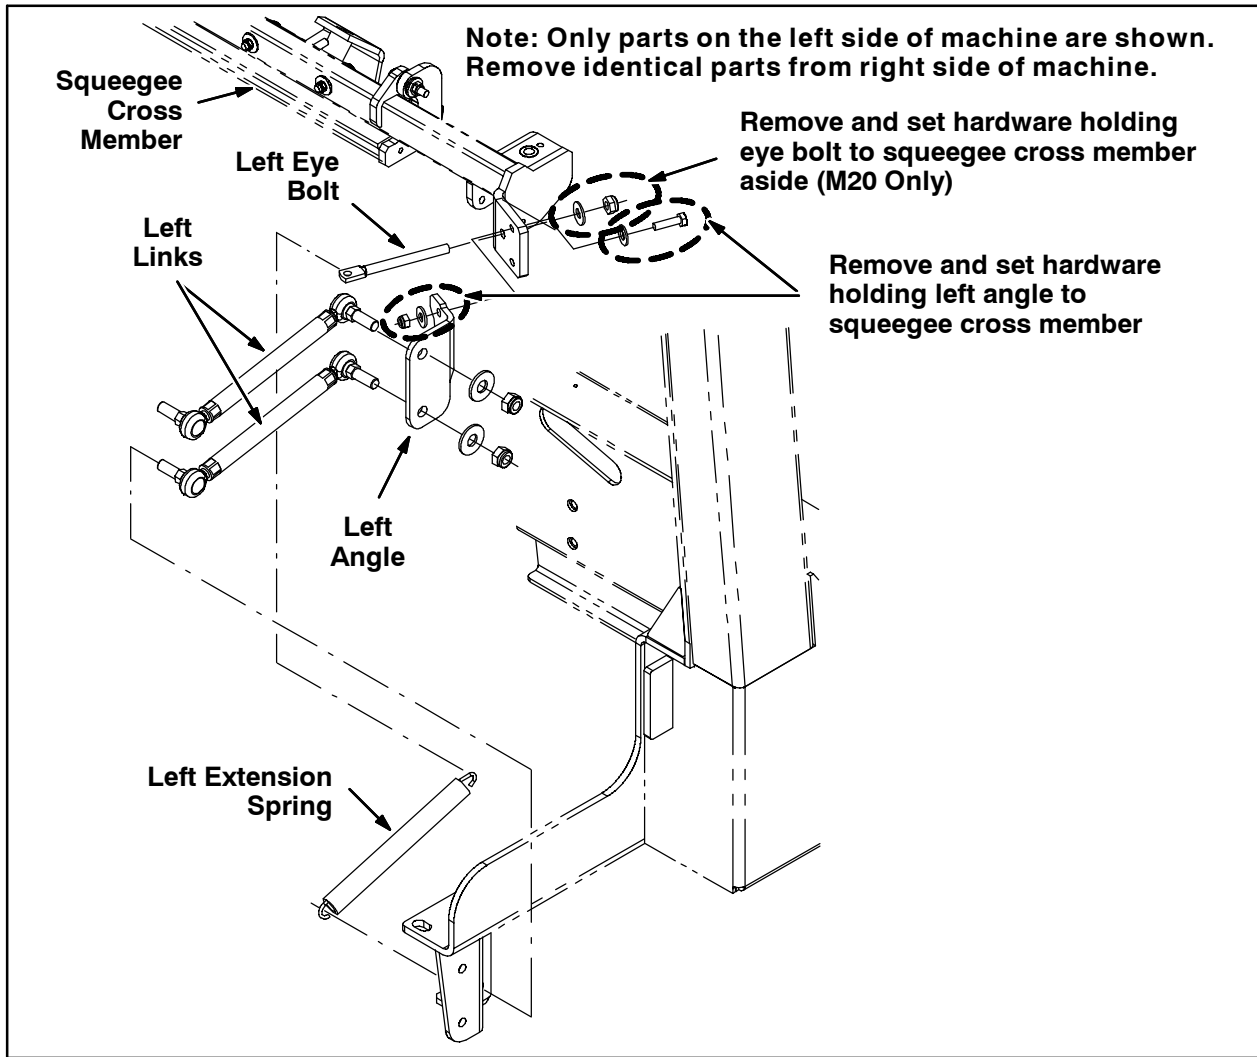
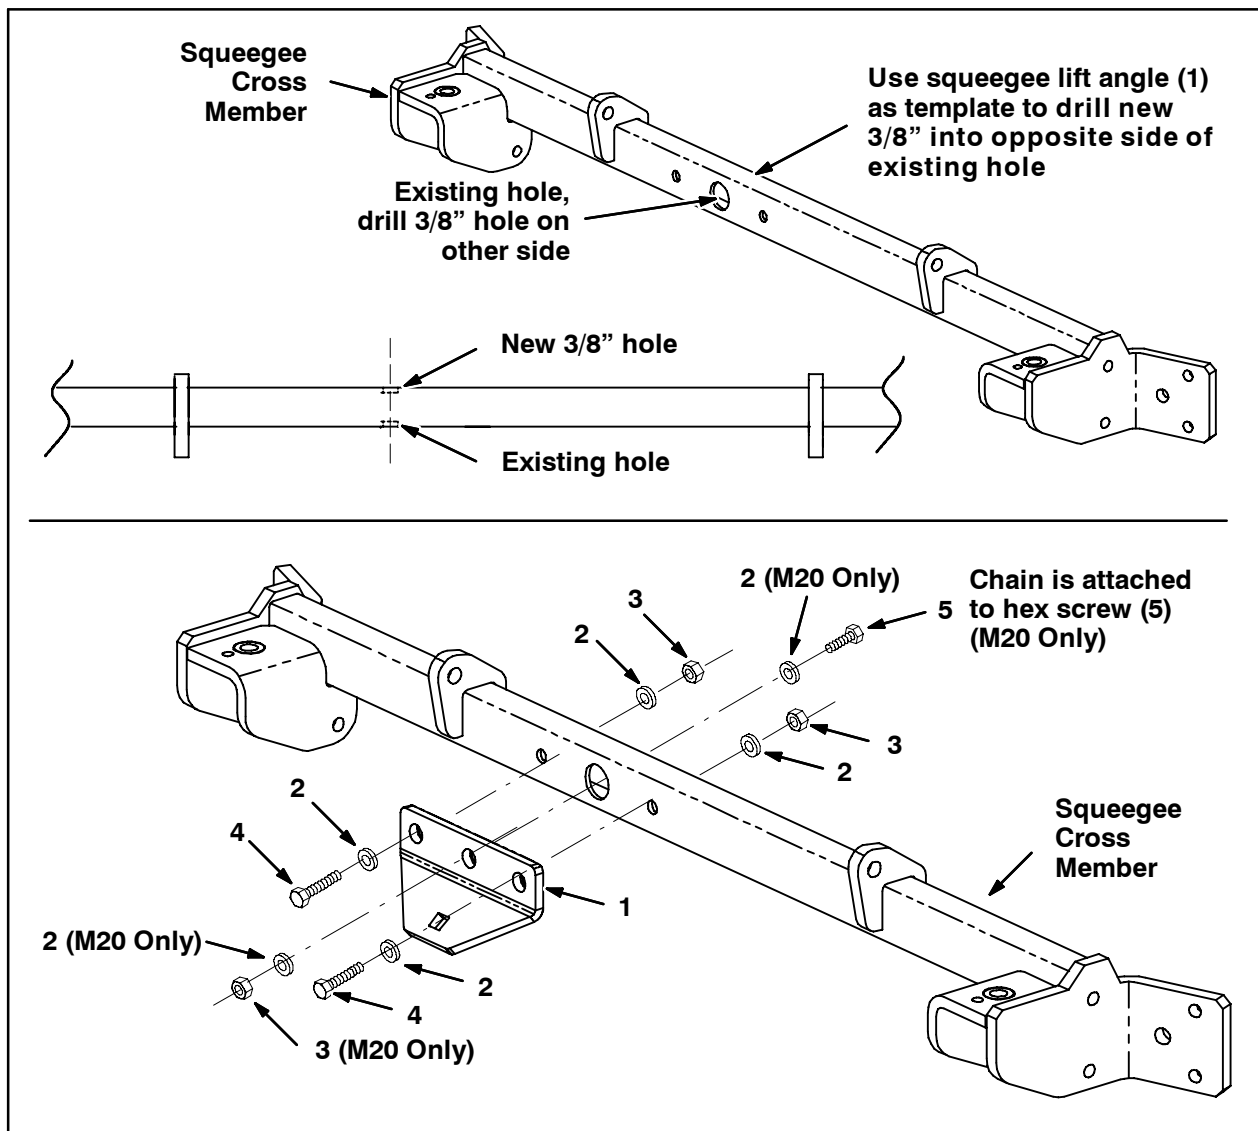

FIG. 3
FIG. 5
5. **M20 Machines Only:** Disconnect the eye bolts attached to the extension springs from both sides of the machine. Set removed hardware aside. Refer to Fig. 3.
6. Remove the hardware holding the left and right angle to the squeegee cross member and remove the squeegee cross member from the machine. Set removed hardware aside. Refer to Fig. 3.
2. Place the new squeegee lift angle (1) onto the side the squeegee cross member opposite of where the lift angle is mounted align the outer holes in the lift angle with the holes in the squeegee cross member, and use the lift angle as a template to drill a 3/8" hole through the center hole in the lift angle and through the squeegee cross member. Refer to Fig 5.
3. Use two hex screws (4), four flat washers (2), and two hex nuts (3) to install the squeegee lift angle (1) onto the squeegee cross member. Refer to Fig. 5.
4. **M20 Machines Only (These parts can be discarded if installing kit on a T20 machine):** Slide a flat washer (2) onto the hex screw (5) and insert the hex screw through the new hole and the existing hole in the squeegee cross member and the squeegee lift angle (1). Refer to Fig. 5.
5. Reinstall the squeegee cross member onto the machine. If working on an M20 machine, be sure the hex screw (5) and flat washer (2) installed in the previous step remain in place in the squeegee cross member and squeegee lift angle (1). Refer to Fig. 3 and Fig. 5.
6. **M20 Machines Only (These parts can be discarded if installing kit on a T20 machine. The T20 is not equipped with this chain):** Use a flat washer (2) and hex nut (3) to attach the chain to the hex screw (5). Refer to Fig. 2 and Fig. 5.